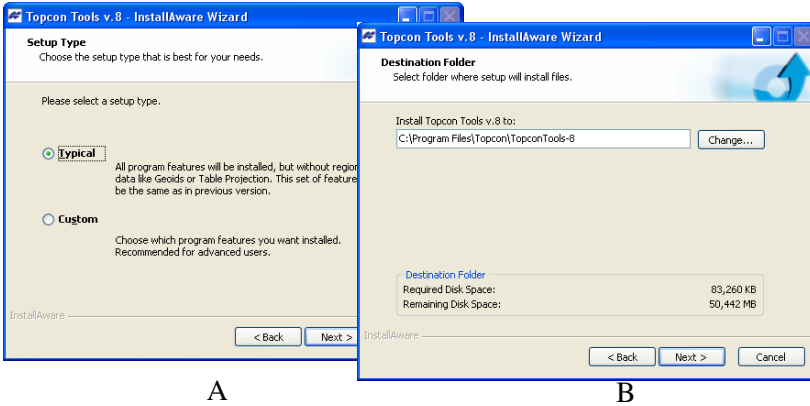

Figure 1-2. Typical Setup Type
- display the next installation dialog (Figure 1-2).
3. Either keep the default installation folder or click **Browse** to select a different folder in which to install the Topcon Tools. Click **Next** to continue (Figure 1-2, picture B).